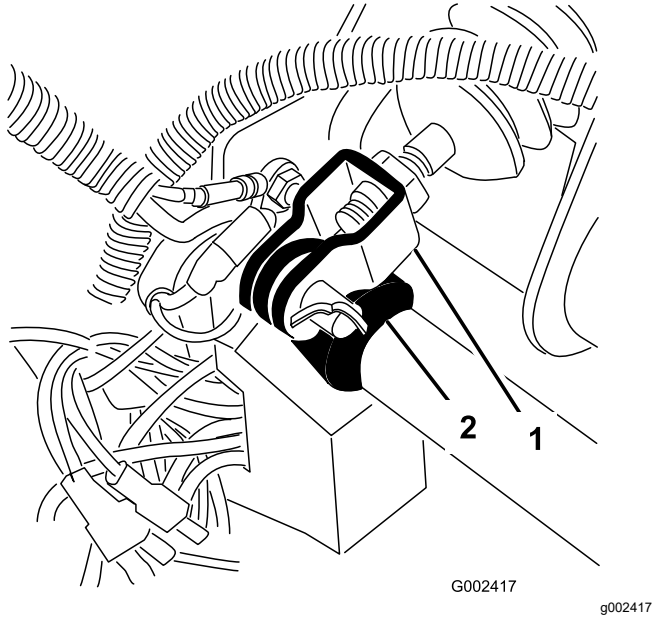

Figure 60
1. Remove the cotter pin and clevis pin securing the master cylinder yoke to the brake-pedal pivot (Figure 60).